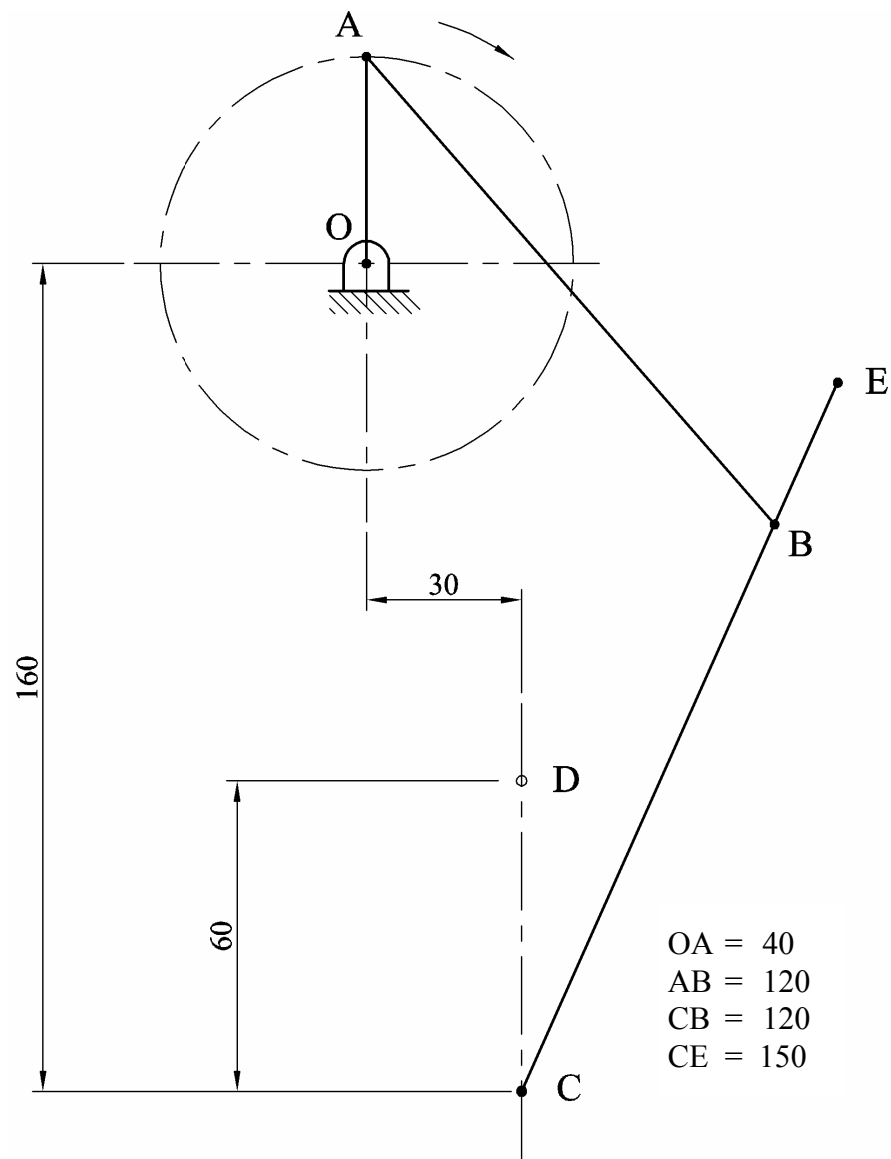

Fig. 2 / Fíor 2
- (b) In the mechanism shown in Fig. 2, the crank OA rotates clockwise about the fixed point O at a constant speed. The rod AB connects to the link CE by a pin joint at B. During one revolution of OA the end C of the link CE slides from C to D and back to C again.